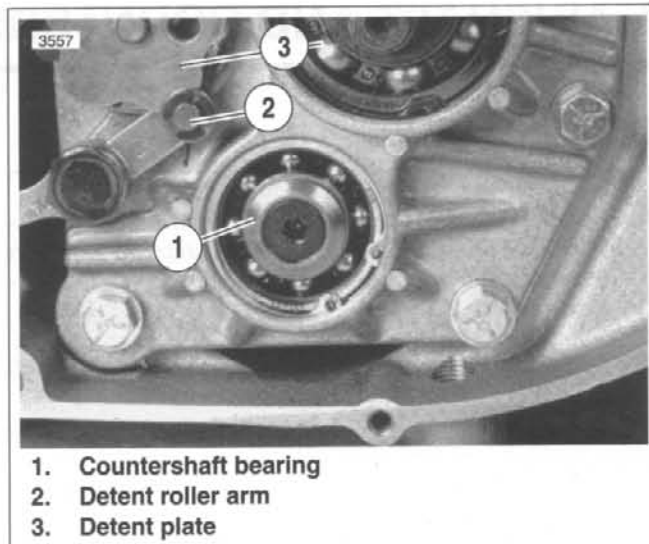

Figure 6-35. Detent Roller Arm
See Figure 6-35. Install detent roller arm (2) between countershaft bearing (1) and detent plate (3) location.